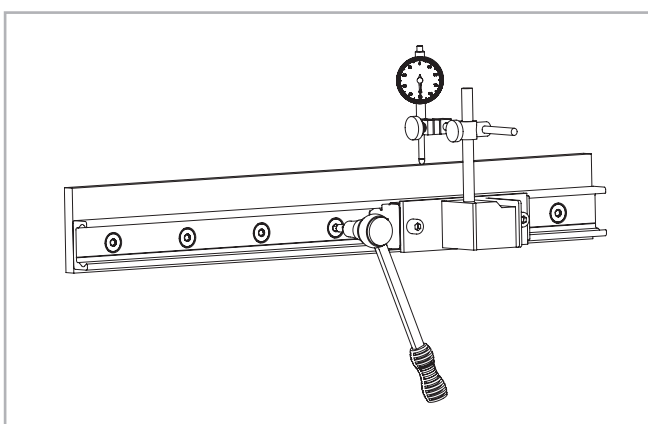

Fig. 159
(2) Install a dial indicator so that the offset of the rail to a reference line can be measured. Now position the slider in the center of the rail and set the dial indicator to zero. Move the slider back and forth between each two hole spacings and carefully align the rail. Fasten the three center screws of this area now with the the specified tightening torque, see pg. fig. 159.
(3) Now position the slider on one end of the rail and carefully align the rail to zero on the dial indicator.